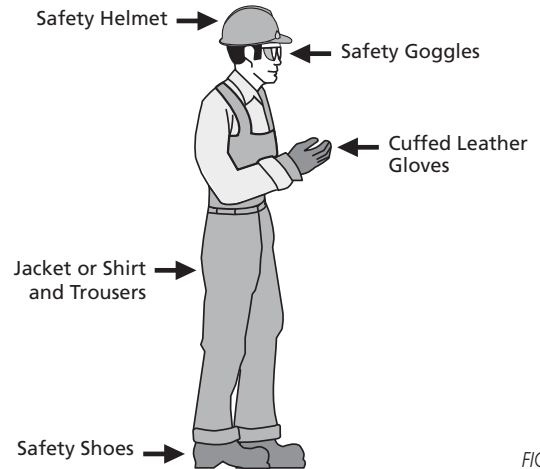

FIGURE 1
-  **WARNING:** The worker(s) performing the welding must be properly dressed and equipped. Examples include cotton or woolen garments (most synthetic fabrics melt rather than char when exposed to flame, causing severe burns), safety footwear with non-slip soles, head protection, leather gloves, eye goggles and other clothing and equipment recommended or required by the person's employer, industry practice, or applicable laws and regulations. **See Figure 1.** The worker(s) must not be under the influence of any alcohol, drugs or other chemicals that would impair their judgment or performance of the job. Failure to observe this may result in serious personal injury.